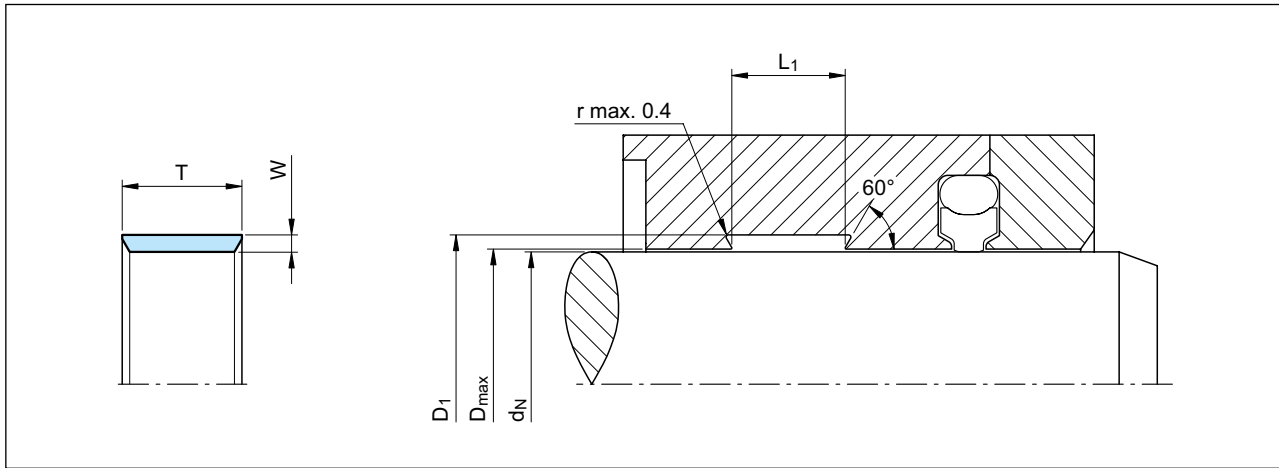
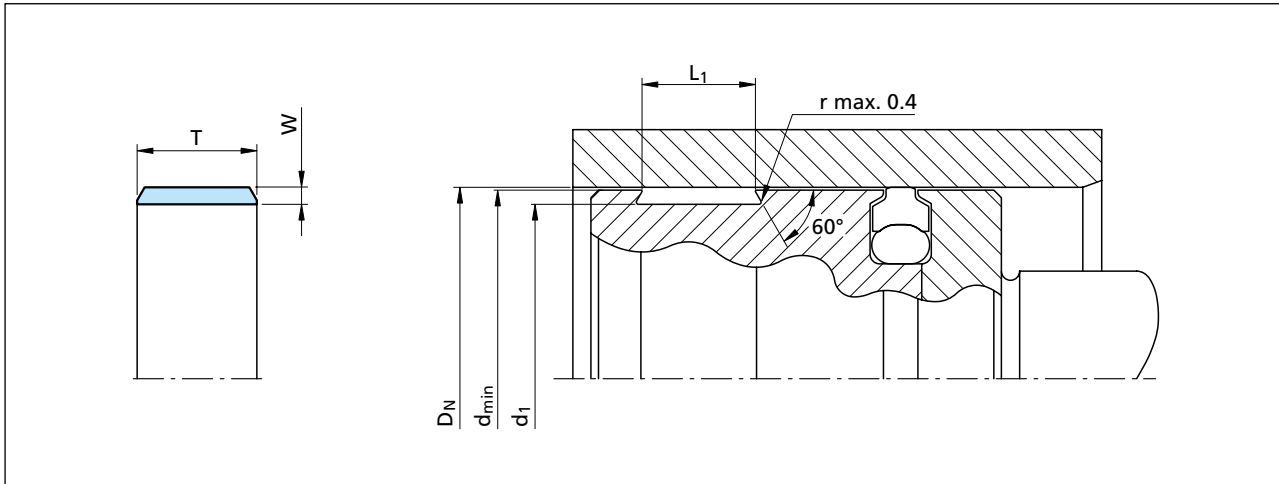

Figure 149 Installation Drawing
Figure 151 Installation Drawing
- Clearance: The maximum permissible radial clearance  $D_{max}$  and  $d_{min}$  depending on the sealing system used. See Figure 149 and Figure 151.